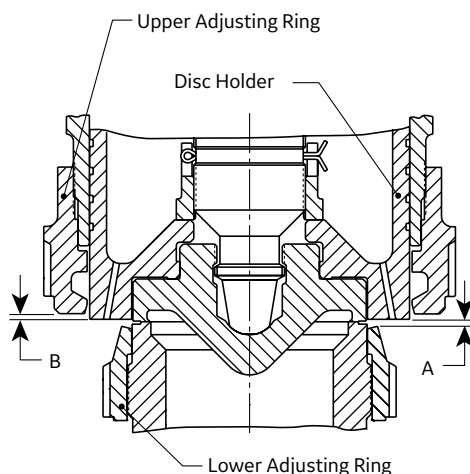

Figure 33
- Refer to Figure 33, and move the lower adjusting ring down the number of notches indicated in Column A, plus 1 additional notch for each 600 psig (41.37 barg) increment of set pressure, not to exceed six notches (see Table 12).
- e. From this point, move the upper adjusting ring down the number of notches indicated by Column B of Table 12. This is also Dimension B in Figure 33.